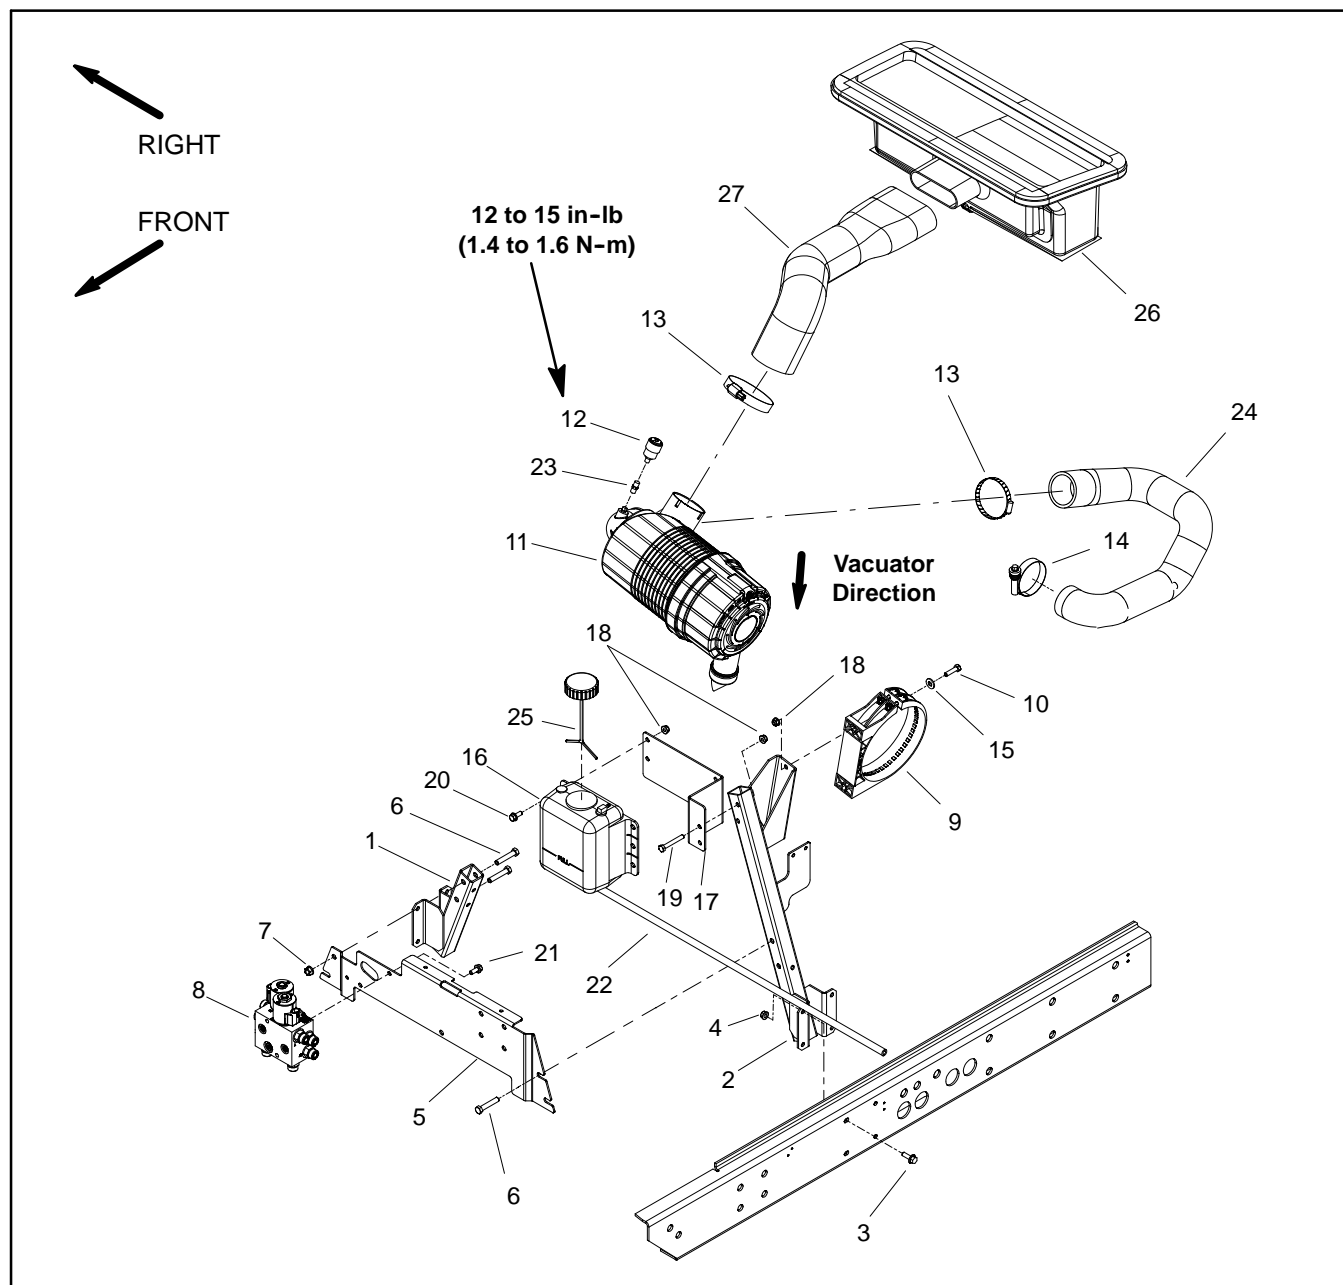

Figure 1
**Removal (Fig. 1)**
3. Remove air cleaner components as needed using Figure 1 as a guide.
**Installation (Fig. 1)**
1. Assemble air filter system using Figure 1 as a guide.